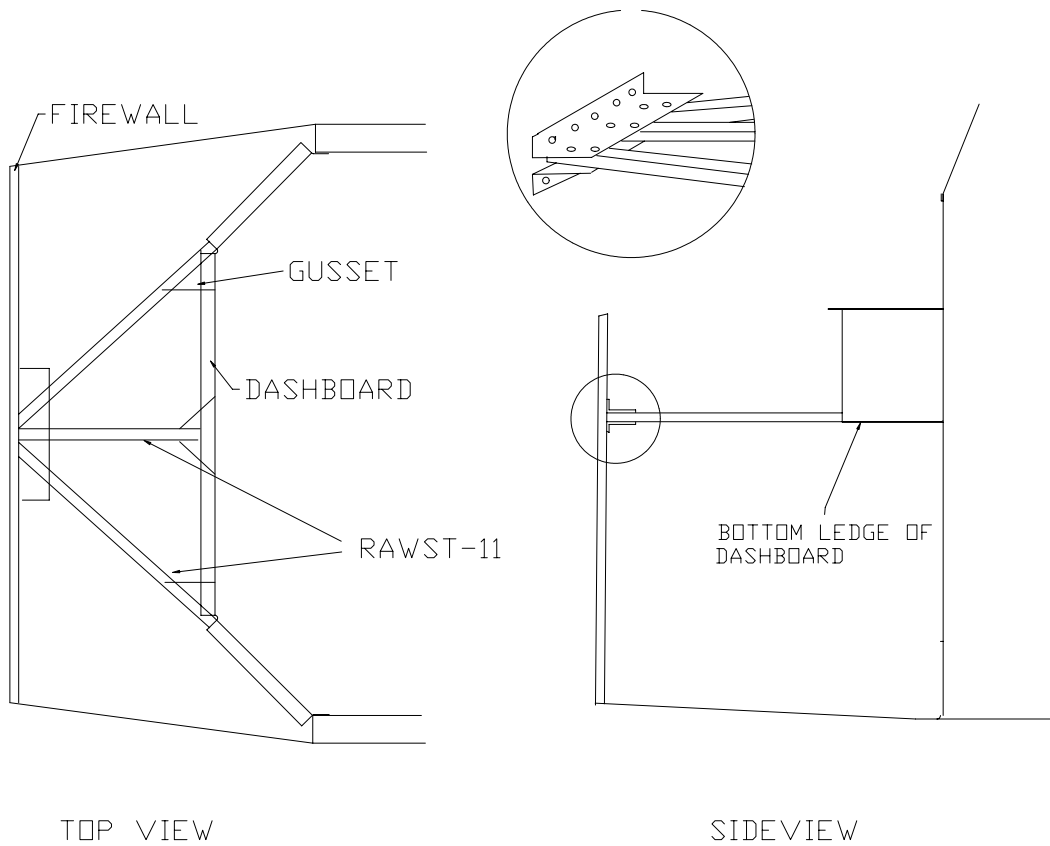

Figure 25
72) Cut three pieces of RAWST-11 to fabricate Dash braces as shown in Figure 25.
74) Make gussets shown in Figure 25 using the standard practices that you have learned.